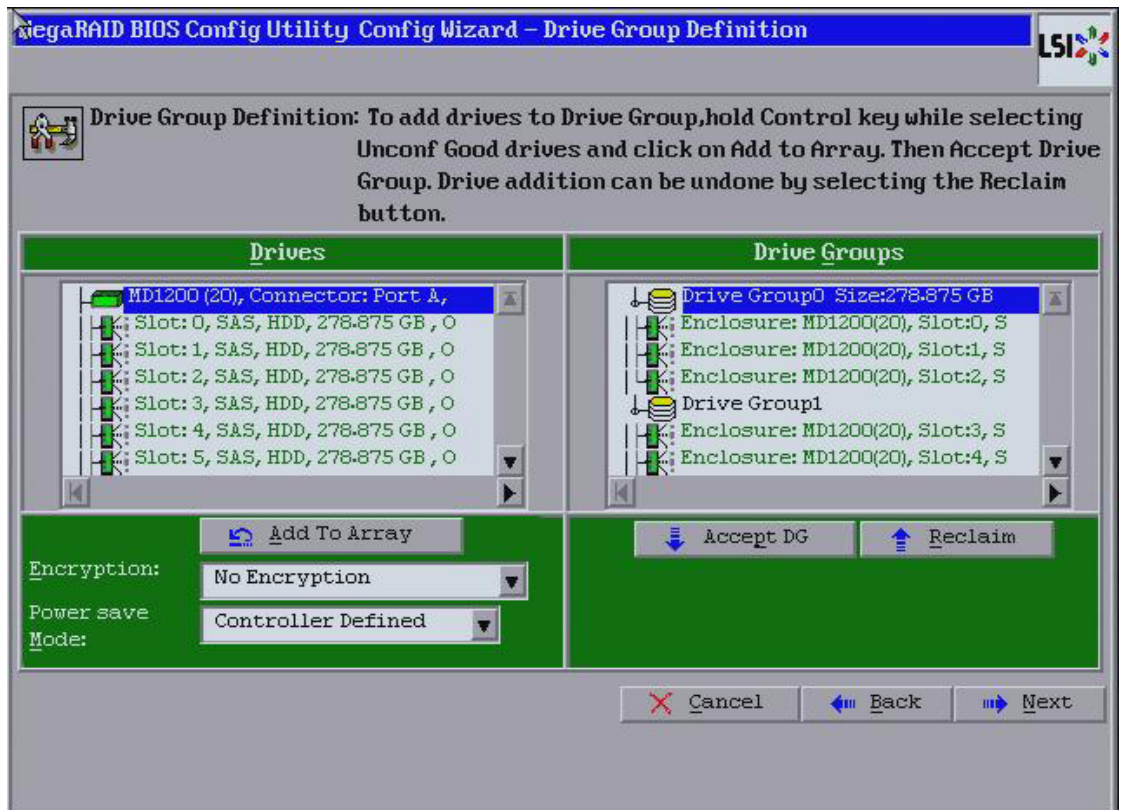

Figure 56: Drive Group Definition Dialog
6. Click **Add To Array** to move the drives to a proposed drive group configuration in the **Drive Groups** panel on the right, as shown in Figure 56.